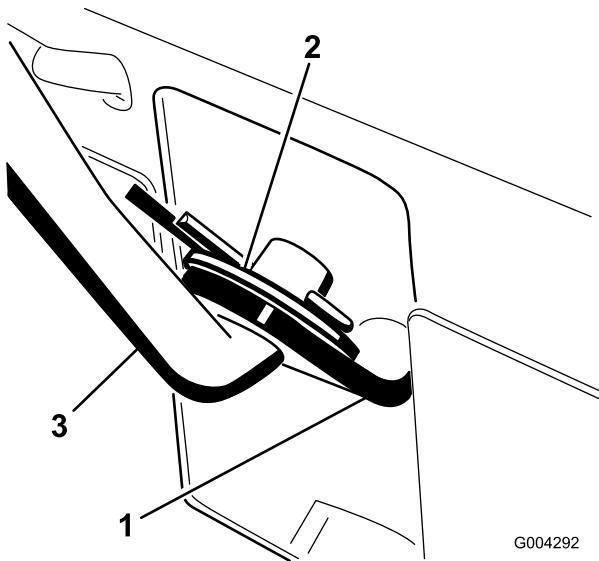

Figure 6
1. Pull the speed selector arm (Figure 6) to the most outward position.
- Install the speed selector rod into the speed selector arm, add a flat washer on the selector rod, and secure it with a cotter pin (Figure 6).